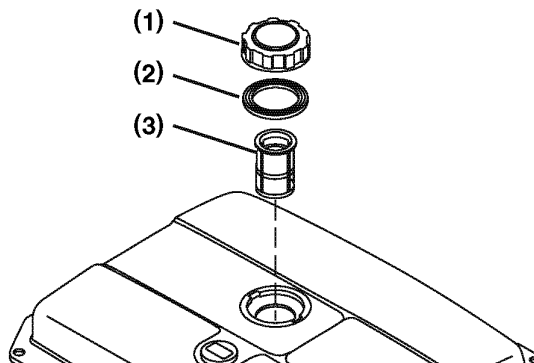

Figure 9-15
7. Remove the fuel cap (Figure 9-15, (1)), seal (Figure 9-15, (2)) and inlet filter (Figure 9-15, (3)).